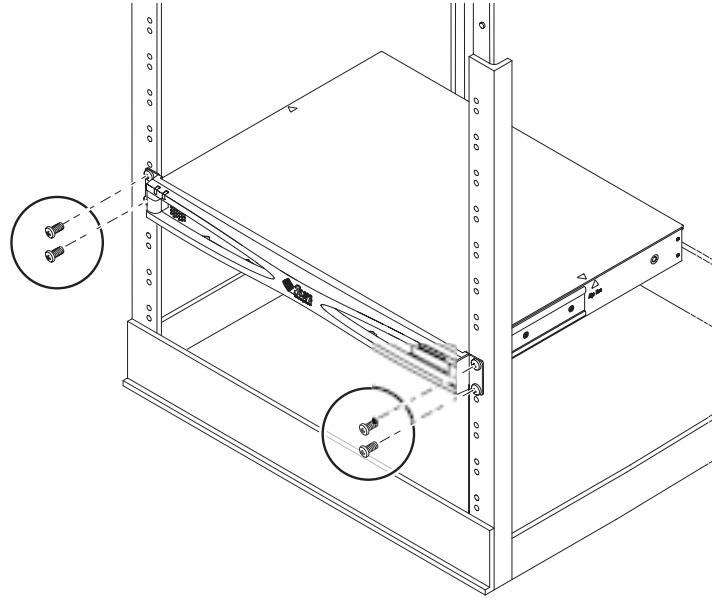

FIGURE 2-1 Mounting the Server in a Standard 19-inch Rack
1. **Position the Netra X1 server in the rack and tighten the screws (see FIGURE 2-1).**